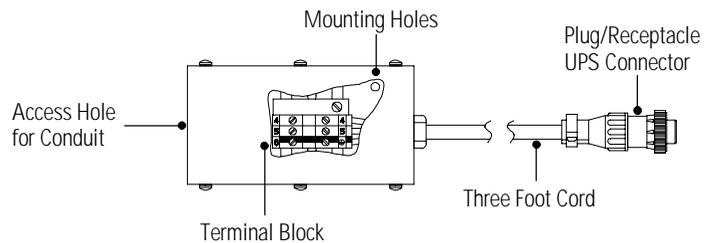

Figure 11. REPO Cord Junction Box
1. Place the conduit through the access hole on the junction box (see Figure 11). Connect the exposed conduit wires to the corresponding compression terminals (see the following table). Tighten the compression terminals with a screwdriver.